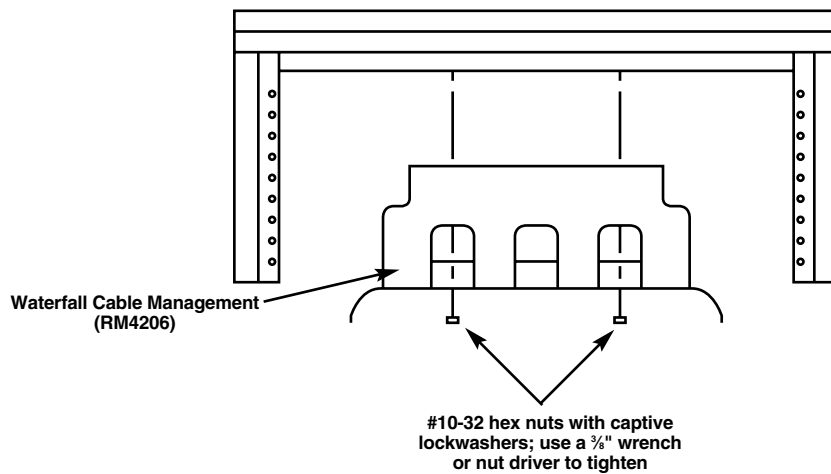

Figure 3-5. Front view.
3. Fasten the Waterfall Cable Management with two #10-32 hex nuts. Use a $\frac{3}{8}$ " wrench or nut driver to tighten them. See Figure 3-5.